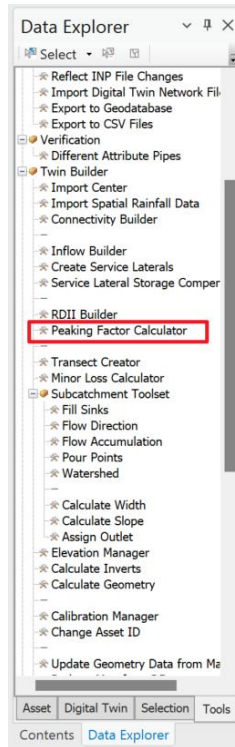

Figure 2: The *Peaking Factor Calculator* tool location.
1. The *Peaking Factor Calculator* tool under *Data Explorer > Tools* (**Figure 2**) can be used to add flow/population based peaking factors into the sewer model.